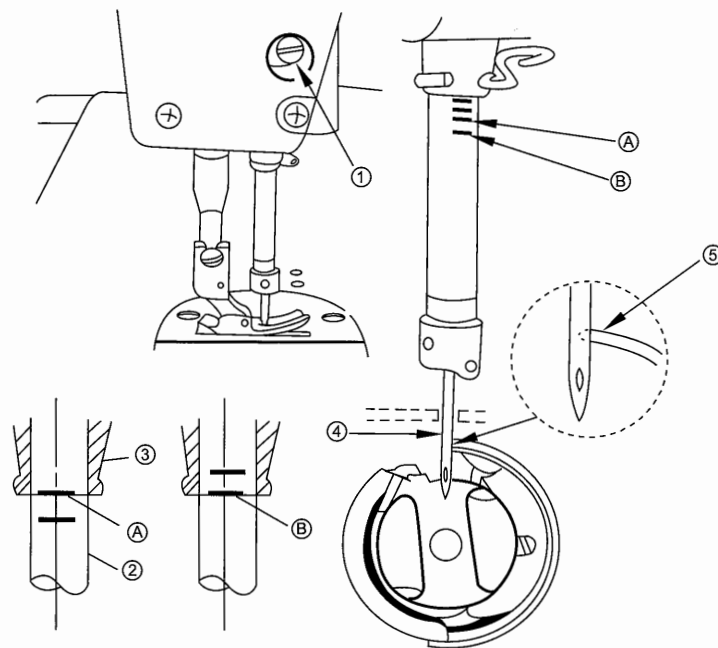

FIGURE 20
14. THE RELATIONSHIP BETWEEN NEEDLE AND ROTATING HOOK (FIGURE 20)